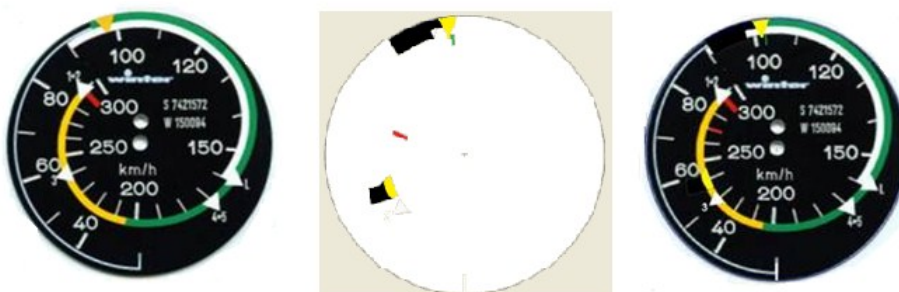

Figure 1: FROM LEFT: ASI without the sticker; The Stickers; and The ASI with the Sticker.
3. Applying markings on the ASI clearly visible to the pilot, as indicated in Figure 1, to comply with the values described in the Flight Manual v3.0, section 2.2, airspeed limits.